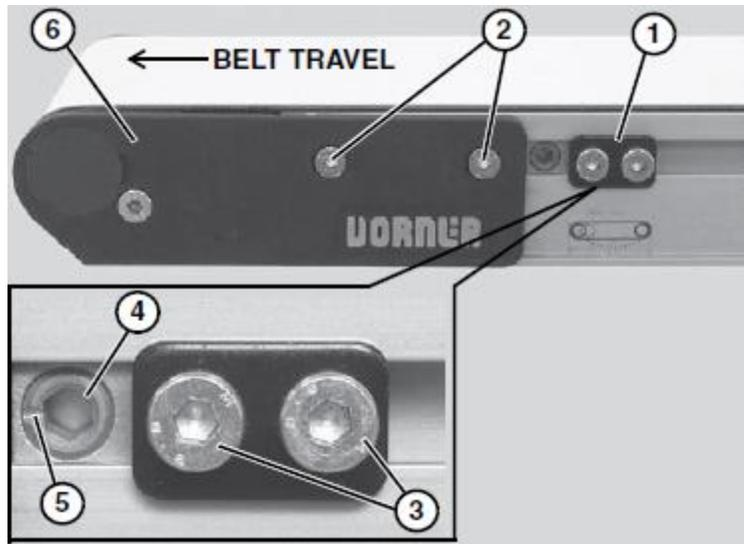

Figure 4-3
Non V-guided belt conveyors are equipped with belt tracking cam assemblies (Figure 4-3, item 1) for belt tracking adjustment.
- Ensure head plate fastening screws (Figure 4-3, item 2)
- On both sides of conveyor, loosen two (2) cam fastening screws (Figure 4-3, item 3). Adjust cams (Figure 4-3, item 4) until indicator slots (Figure 29, item 5) are horizontal and facing end of conveyor. Then slide cam assemblies against head plates (Figure 4-3, item 6) and re-tighten cam fastening screws (Figure 29, item 3) to 60 in-lb (7 Nm).
- On the side toward which the belt is tracking, loosen head plate fastening screws (Figure 4-3, item 2).
- With the conveyor running, use a 5 mm hex-key wrench to rotate the tracking cam (Figure 4-3, item 4) in small increments until the belt tracks in the center of the conveyor. Then while holding the cam in position, re-tighten the head plate fastening screws (Figure 4-3, item 2) with a 4 mm hex-key wrench to 60 in-lb (7 Nm).